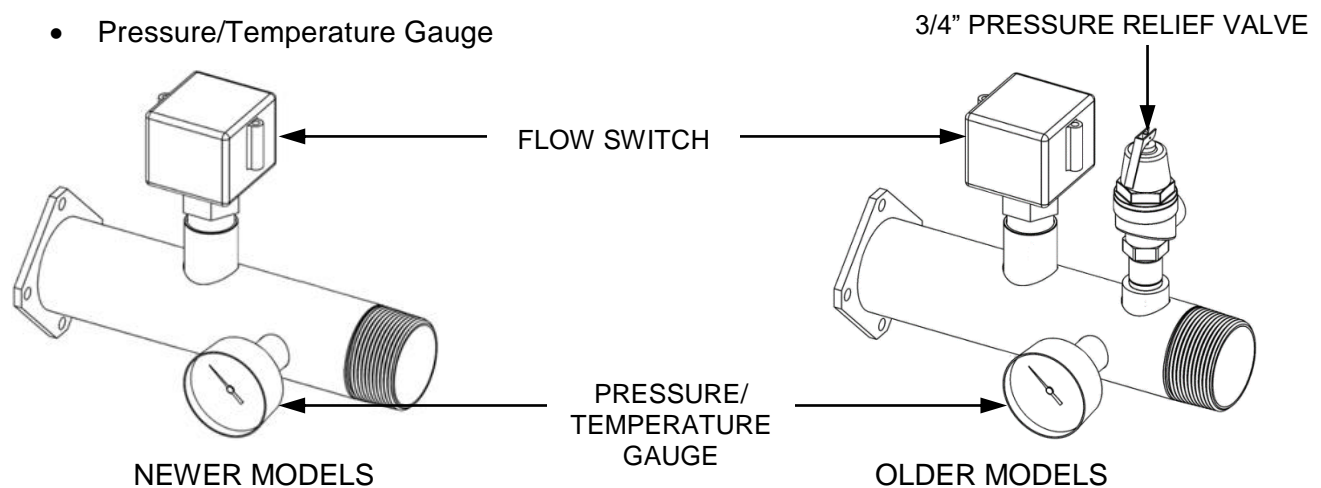

Figure 4-17: CSD-1 Manifold Assembly and Components
On *older* models (MLX EXT 321, 481, 641, 802, 962, 1123), the Pressure Relief Valve is not factory installed, but instead included separately in the shipping container. It must be fitted on the CSD-1 manifold at the site, per the instructions in the next section, 4.14 (see Figure 4-17).
These components are supplied with the boiler and must be assembled and wired when the boiler is installed at the site. The manifold components are shown installed into the CSD-1 manifold in Figure 4-17. The manifold assembly components supplied are:
3. Connect the following components to the tapped holes in the manifold assembly, as shown in Figure 4-17, above:
4. On *older* models only, also install the 3/4" Pressure Relief Valve to the third tapped hole in the CSD-1 manifold assembly, as shown in Figure 4-17, above.